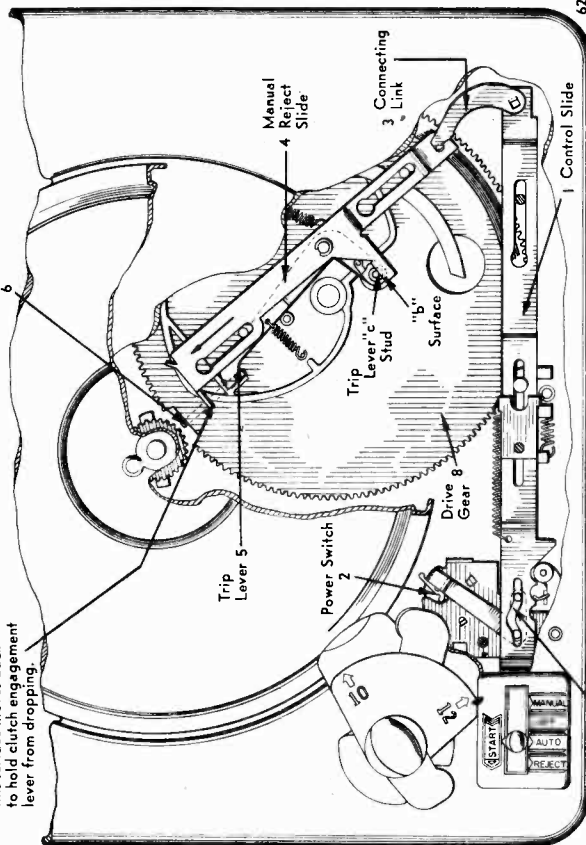

FIG. 2. CUTAWAY—TOP VIEW
- b. The end of the control slide (1) acting through the connecting link (see fig. 2) and the manual reject slide (4), partially disengages the tone arm inner latch (33) from its locked position. It now serves as a detent for the tone arm while in the rest position, and prevents its movement due to accidental bumping.
- c. The manual lockout (42) on the control slide (1) prevents the tone arm locator (20) from moving inward, thereby permitting free movement of the tone arm by hand.